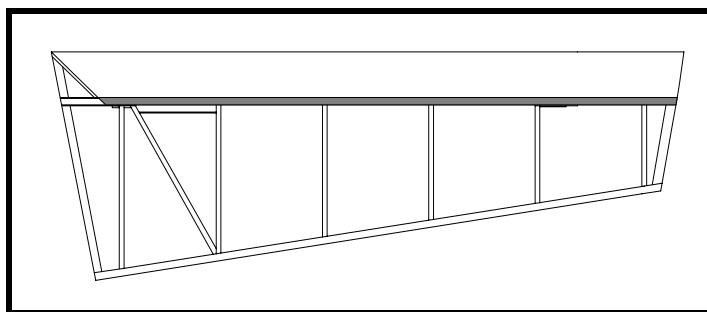

Figure 13
- ❑ Scarf the leading edge skin along the spar to prepare for the trailing edge skin. See Figure 13.